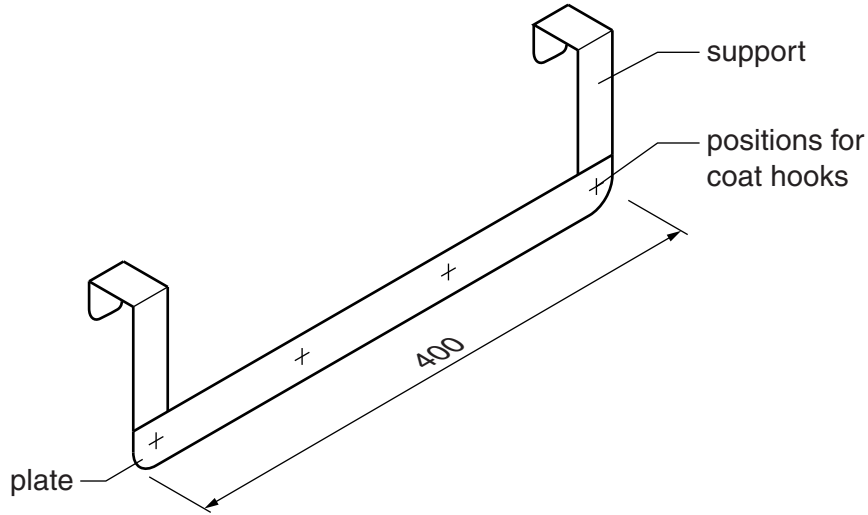

Fig. 10
- 11** Fig. 10 shows an incomplete design for a coat rack that fits over the top of a door. The coat rack is made from 1 mm thick metal strip and will be made in a school workshop.
(e) The coat rack in Fig. 10 could be made from brass.
(g) (i) The positions for four coat hooks are shown in Fig. 10.